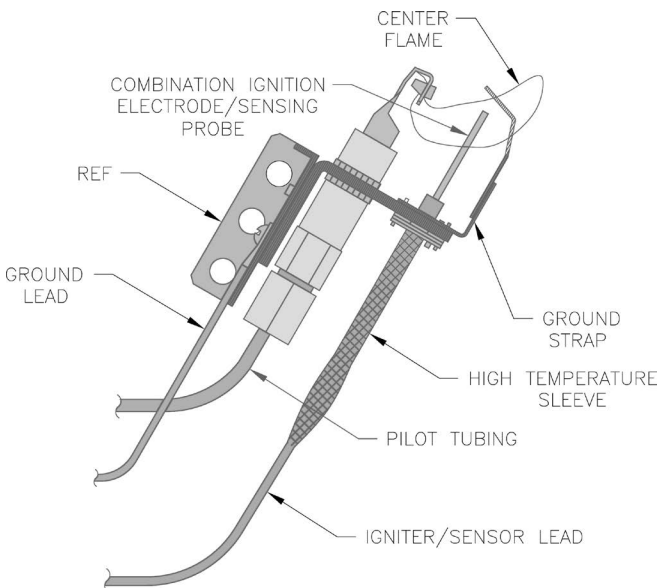

Figure 43: Typical Pilot Flame, Honeywell Q3481B
- b. Electronic Ignition (EI), Models IN31 through IN12. See Figure 43. Pilot should be lit only after completing Step 3. Pilot burner produces three (3) flames. Center flame should be steady, medium hard blue enveloping $3/8$ to $1/2$ inch of sensing probe.